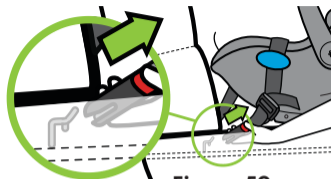

Figure 59
- Press and hold red release button while pulling LATCH Connector as shown in **Figure 59**.